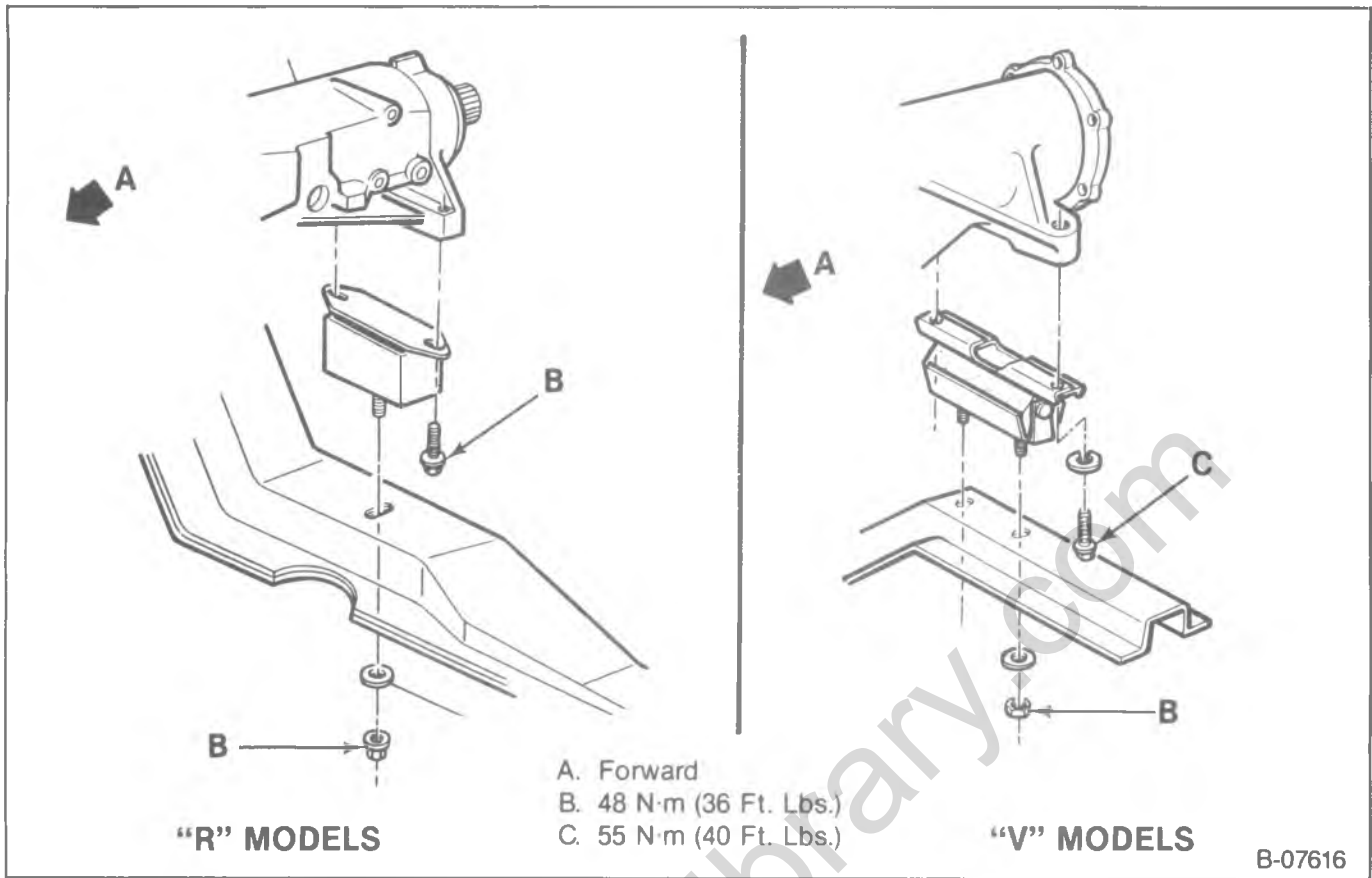

Figure 38—Rear Engine Mounting (R and V Models)
➔➔ Remove or Disconnect (Figures 38 and 39)
➔➔ Install or Connect (Figures 38 and 39)
- Fasteners to specifications. Refer to figures 38 and 39.